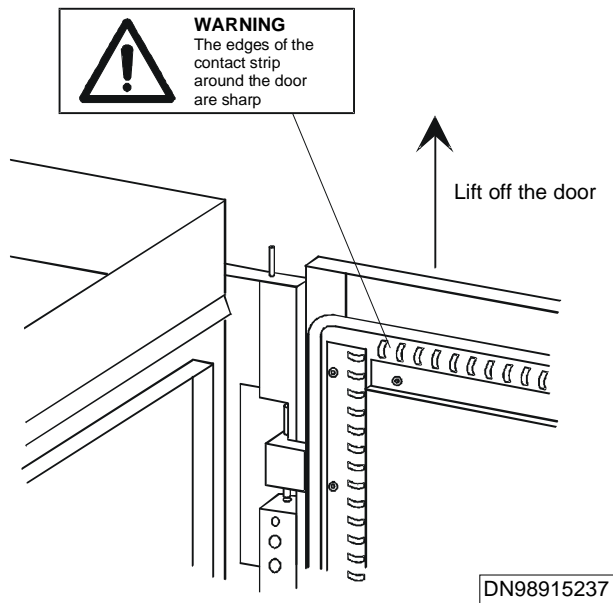

Figure 28 Lifting the cabinet door
2. Lift the door carefully upwards until the door hinge pins are disengaged from the cabinet hinges on the right of the cabinet. See Figure 28.